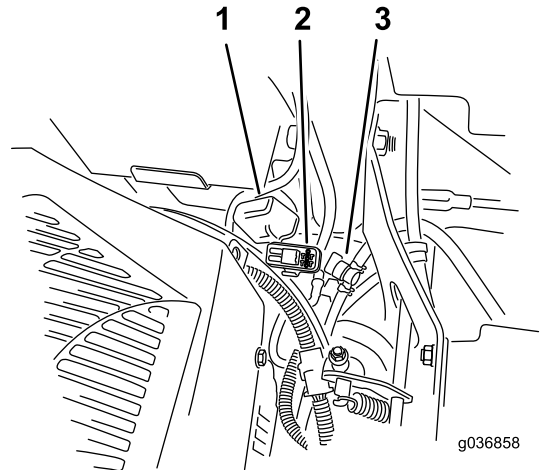

Figure 72
The fuses are located on the right console next to the seat (Figure 72).
2. Install a new fuse (Figure 72).